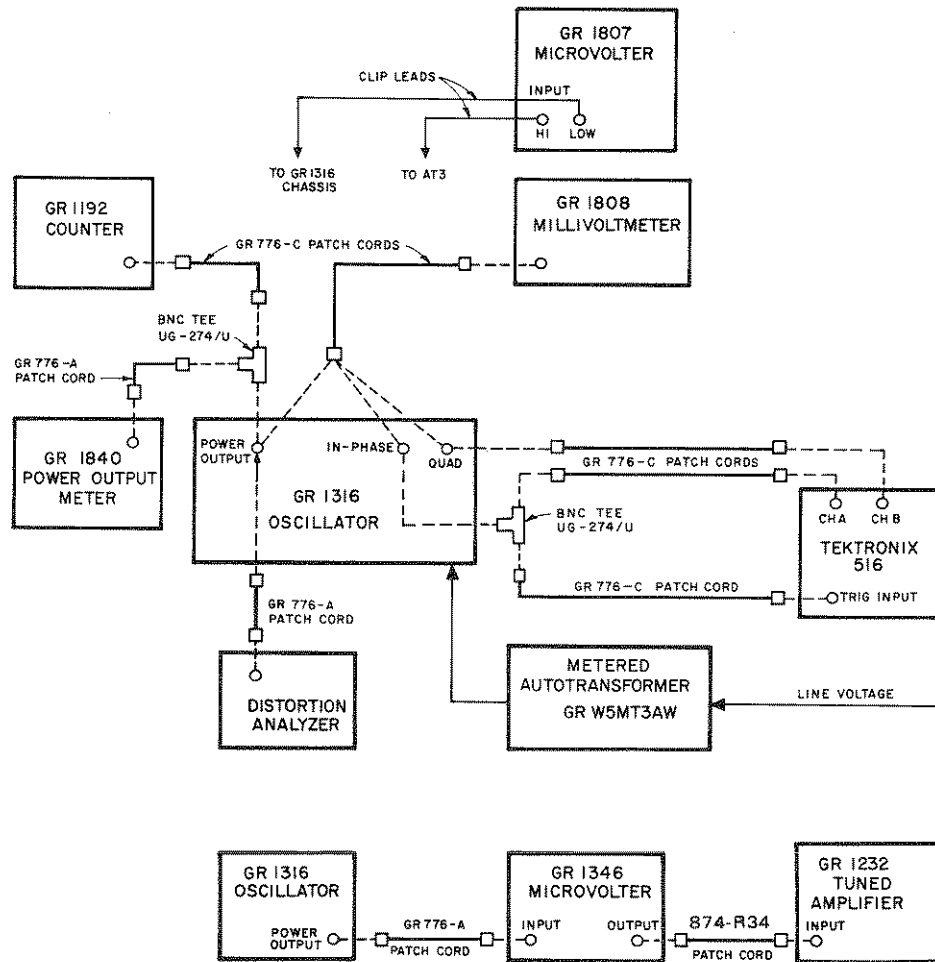

Figure 5-1. Test-equipment setup.
The equipment, methods, and criteria for verifying the specified performance of the oscillator are presented in the following paragraphs. Table 5-1 lists the necessary equipment and Figure 5-1 shows a typical setup for the service and maintenance checks.
a. Connect INPUT A of the 1192 Counter to the POWER OUTPUT jack (Figure 5-1). Set the counter controls to measure period with a $100\text{-}\mu\text{s}$ gate time.
c. Connect the Millivoltmeter to the POWER OUTPUT jack (Figure 5-1).
a. Connect the Type 1840 Output Power Meter to the POWER OUTPUT jack. (Figure 5-1).
- Connect the instruments as shown in Figure 5-1.